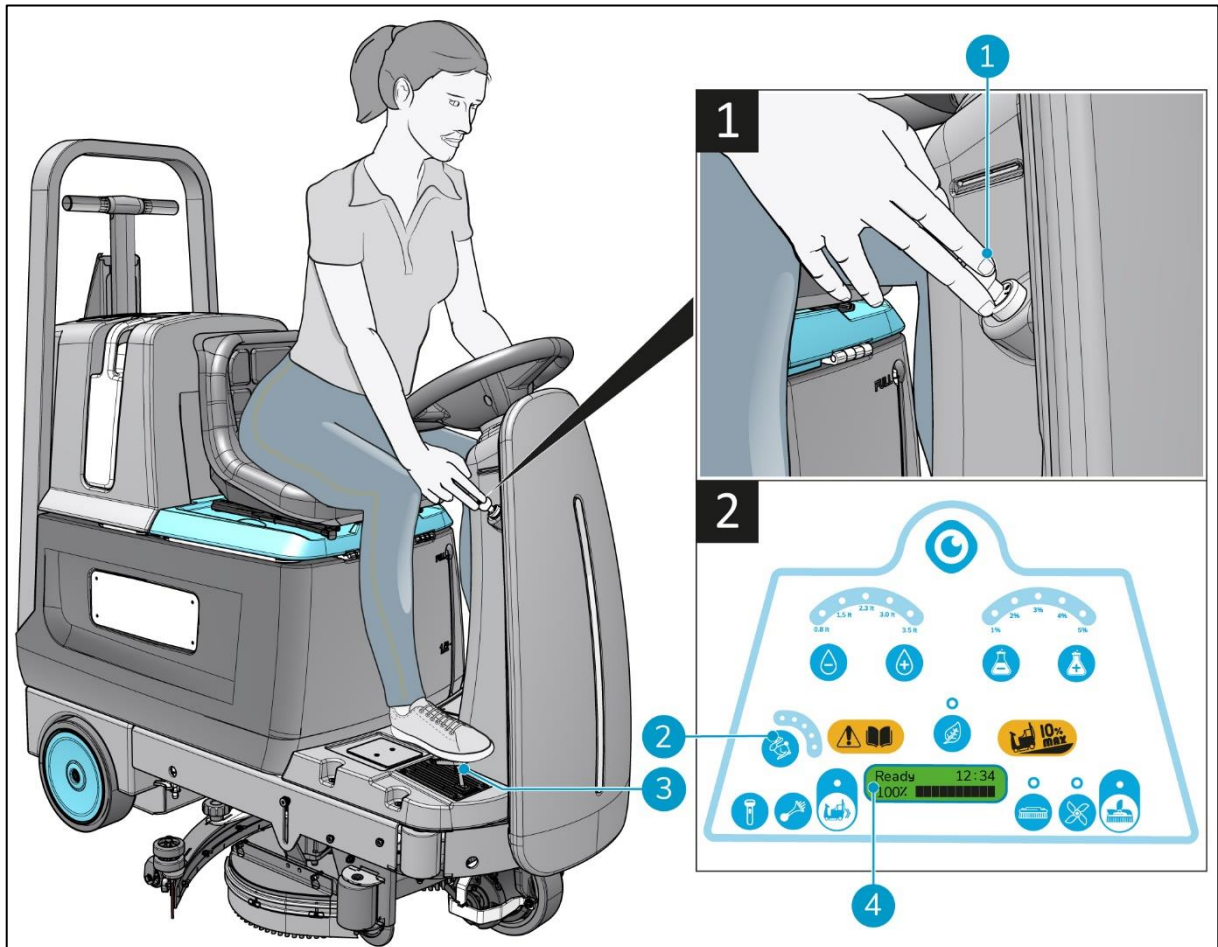

Figure 23
2. Place the ignition key in the key hole (Figure 23, pos 1).
4. Check the display for the start-up sequence to finish, it will show "Ready" (Figure 23, pos 4).
6. Choose the desired driving speed: 1 (up to 2.5 km/h), 2 to 5 (2.5 to 4.5 km/h) (Figure 23, pos 2).
7. Gently push the accelerator pedal down (Figure 23, pos 3) to move forward.